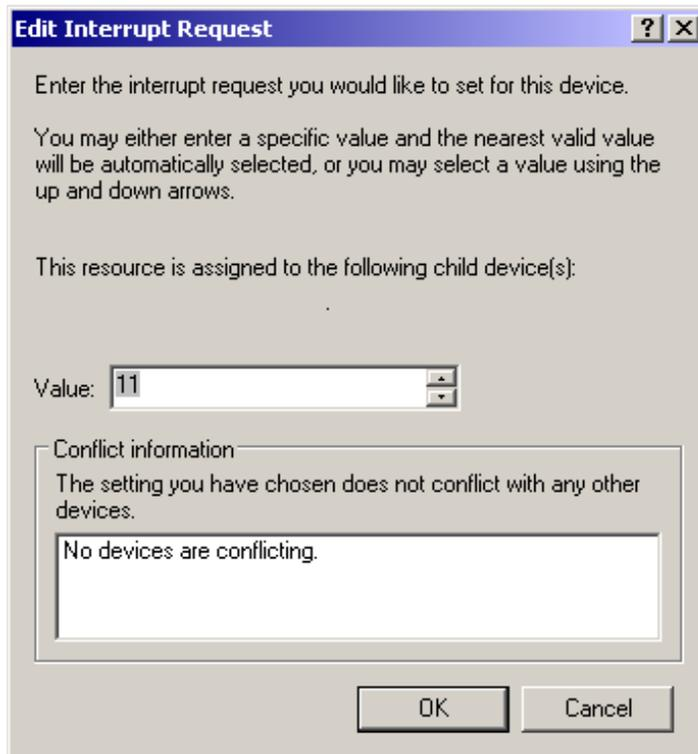

FIGURE 205. Edit Interrupt Request window
42. This will bring up the Edit Interrupt Request window as shown in Figure 205.